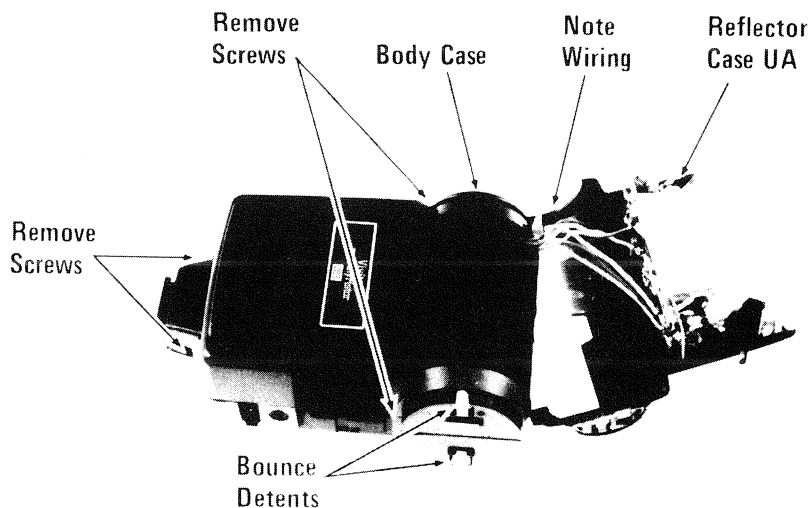

Figure 3-3. Reflector and Body Case Separation
C. Lay reflector case UB aside. Lift body case from reflector case UA and position as shown. Fig. 3-3.
D. Remove bounce angle detents, and screws from body case. Fig. 3-3.
- I. Be sure to insert PC trigger board A into mounting slots in reflector case UA checking that the plastic insulation affixed to the floor of the reflector case is properly positioned. Figures 3-3 and 3-7.
- K. When reassembling body case LB and reflector case UA, make certain that the wires from PC trigger board A are not pinched. Fig. 3-3.